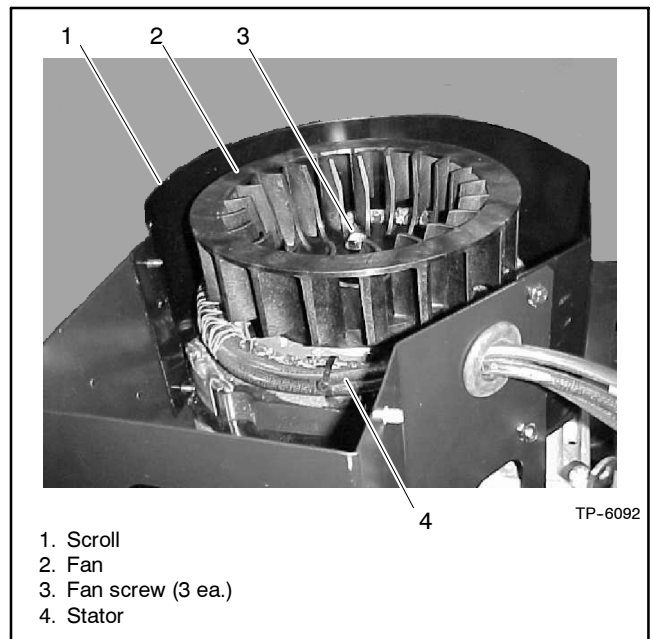
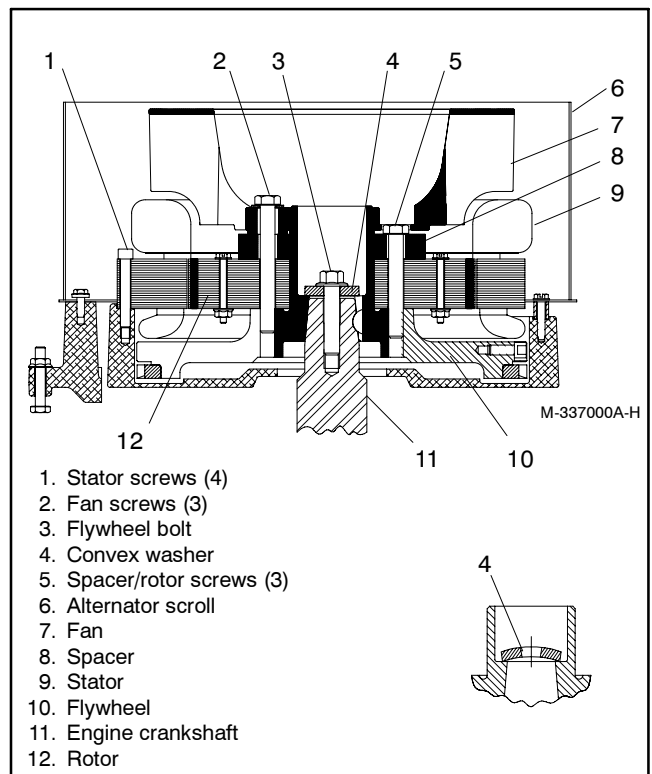

Figure 7-3 Alternator with Fan
Figure 7-4 Alternator Assembly
- Disassemble the fan and alternator. See Figure 7-3 and Figure 7-4.
- a. Remove the thrubolt and convex washer at the center of the flywheel taper. See Figure 7-4.
- c. Install the M10-1.50 x 45 mm (1.772 in.) thrubolt and convex washer. Install the washer with the convex side up, as shown in Figure 7-4.
2. Reassemble the alternator. See Figure 7-4.